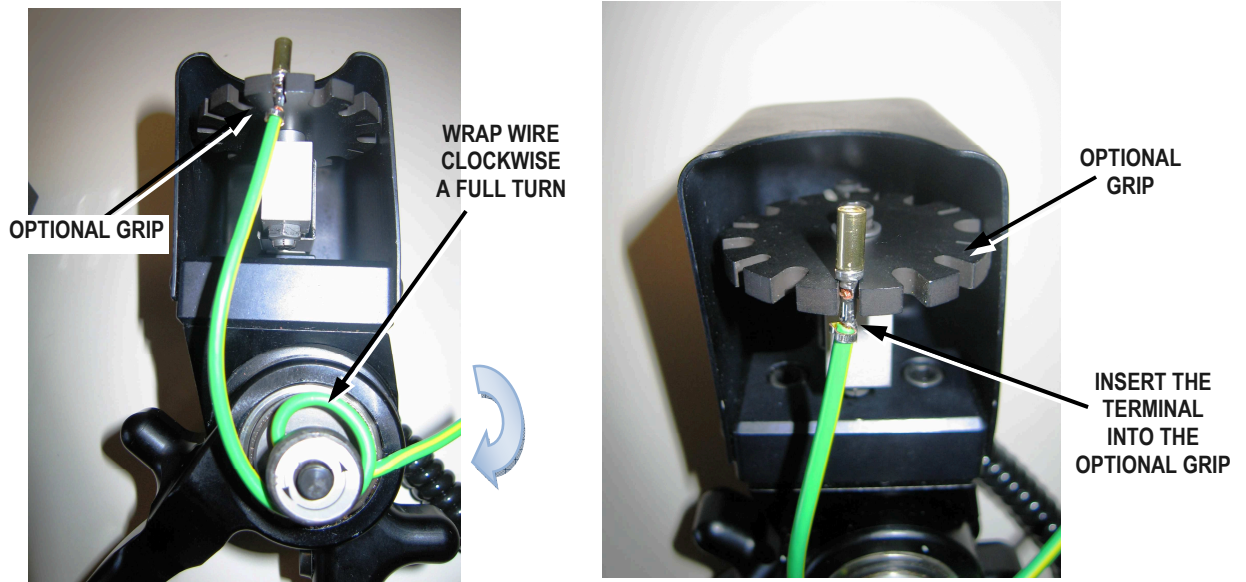

Figure 2-6
4. For best results, wrap the wire at least one full clockwise turn around the cam shaft. See Figure 2-6.